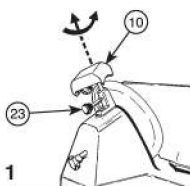

Fig. 1
- Check that the movable bulkhead (2) is closed (graduated knob (6) in position "0")
- Loosen the locking knob (23) of the sharpener group (10).
- Raise the sharpener group (10), turning it by 180° so that both wheels are in working position. See Fig. 1.
- Lower the sharpener group (10) until it locks.
- Secure the group by turning the locking knob (23).
- Switch on (5).
- Press button (26) and let the blade turn for about 1 minute. When the blade is still, check to see if any burr has formed on the edge.
- After having verified the presence of burr, switch on and gently press button (27) for about 3 seconds to remove the burr produced during sharpening.
- Check that the movable bulkhead (2) is closed (graduated knob (6) in position "0").
- Set the movable bulkhead (2) at maximum distance from the blade (3) by turning the graduated knob (6).
- Place the sharpener group (10) on the movable bulkhead (2) as indicated in Fig. 1 blocking it by the knob (23).
- Switch on (5) to activate the automatic sharpening function. If necessary, turn the graduated knob (6) until the grinding stone turns together with the blade.
- Sharpen the blade automatically for about one minute then press the pressure button on the counterburr wheel (27) for two-three seconds, release the button and turn off the motor at the same time.
- After sharpening, remove the sharpener (10) from the movable bulkhead (2) and replace it in its original housing.